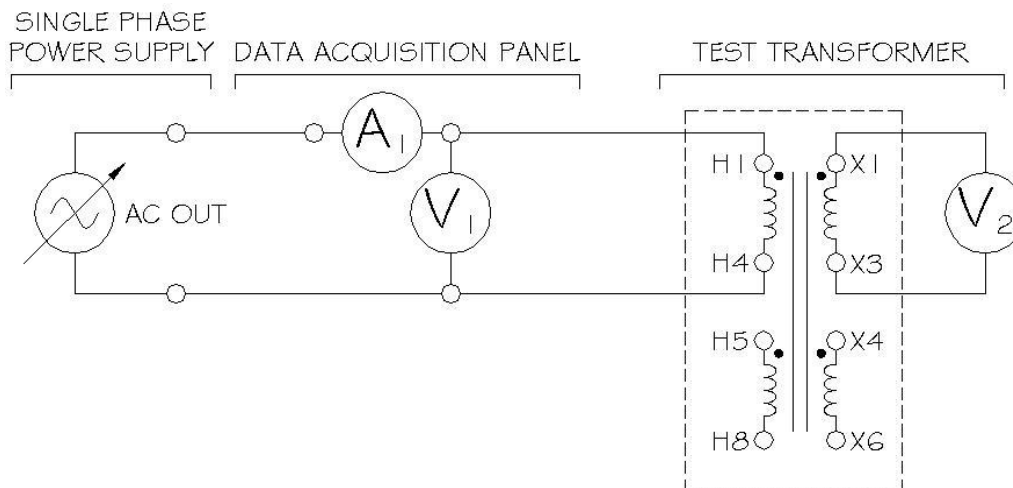

Figure 4 - Experimental Setup Schematic
In this experiment we will use a single winding of a transformer connected to observe Ampere's and Faraday's law in a ferromagnetic core. The experimental setup is illustrated in the following schematic (**Figure 4**). The secondary winding X1 – X3 provides a sample of the induced voltage, and is applied to the second voltage input channel on the Data Acquisition Panel.
1. Connect the transformer to the Single-Phase Power Supply panel and Data Acquisition panel as shown in **Figure 4**.